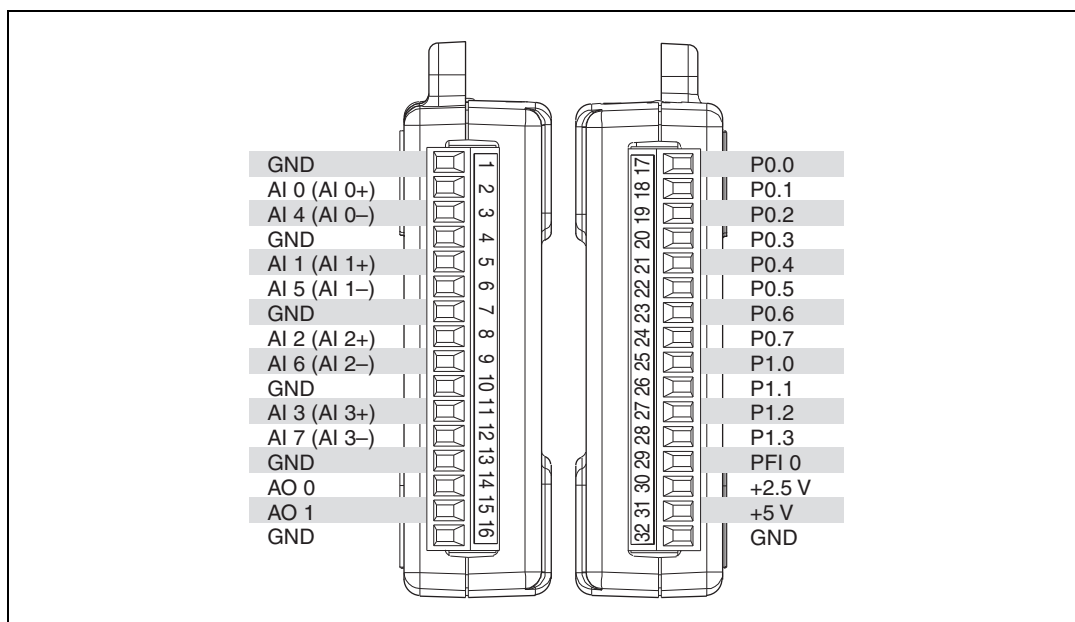

Figure 6. NI USB-6008/6009 Pinout
9. Connect the wires (16 to 28 AWG) of a shielded, multiconductor cable to the screw terminals by stripping 6.35 mm (0.25 in.) of insulation, inserting the wires into the screw terminals, and securely tightening the screws with the flathead screwdriver to a torque of 0.22–0.25 N · m (2.0–2.2 lb · in.). Refer to Figure 6 for the NI USB-6008/6009 pinout.
Figure 6 shows the pinout of the NI USB-6008/6009. Analog input signal names are listed as single-ended analog input name, AI x , and then differential analog input name, (AI x +/-). Refer to Table 5 for a detailed description of each signal.